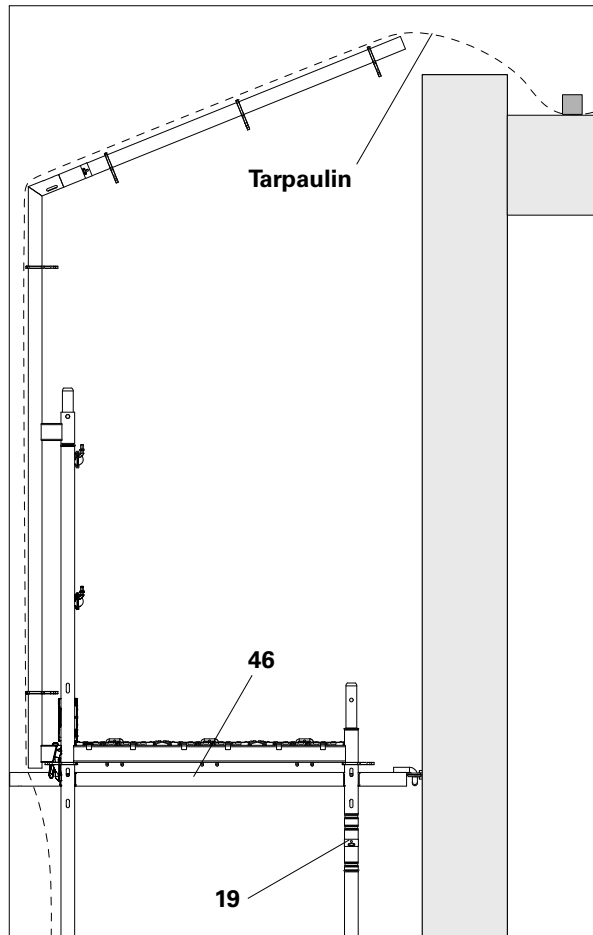

Fig. D3.01
(Fig. D3.01)
- Take additional anchoring (46) into account, see Section "Tie pattern" on page 130.
- From the uppermost anchored level to the next anchored level, securely connect all frame columns to the outer and inner legs using locking pins (19). (Fig. D3.01)